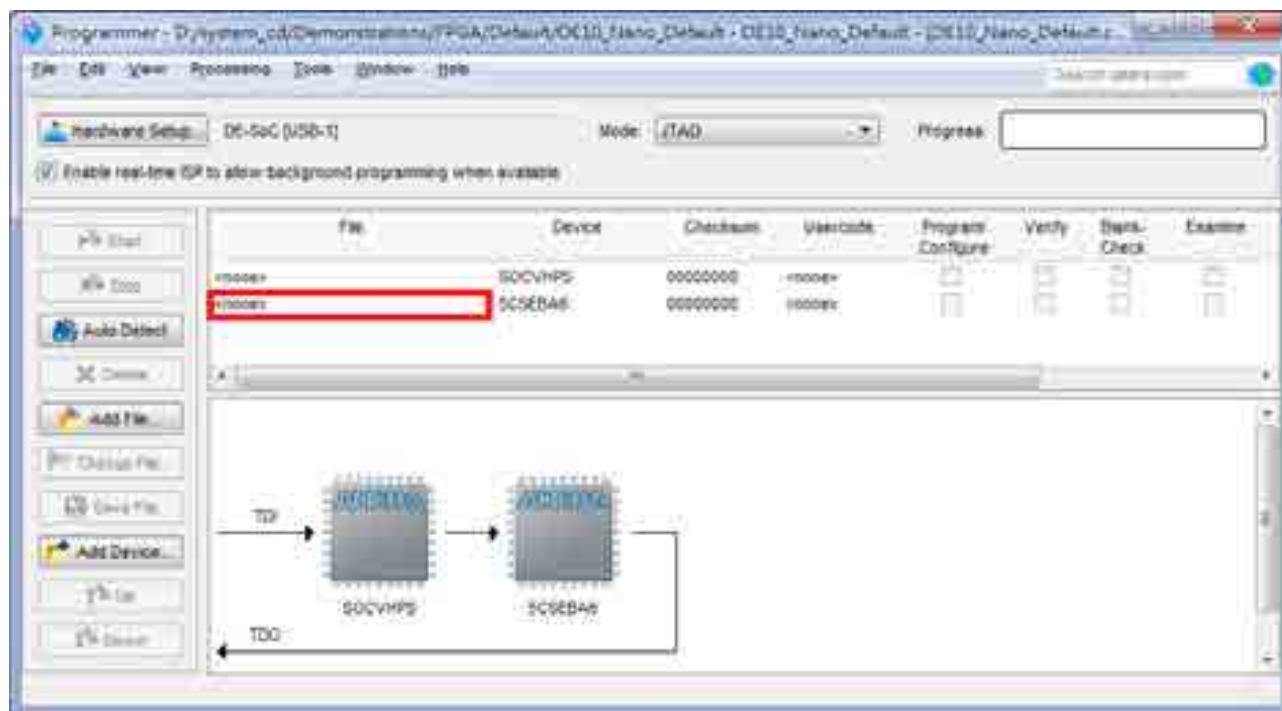

Figure 8-7 Two devices are detected in the Quartus II Programmer
3. Click **Auto Detect** and then select the correct device (5CSEBA6). Both FPGA device and HPS should be detected, as shown in **Figure 8-7**.
4. Double click the red rectangle region shown in **Figure 8-7** and the **Select New Programming File** page will appear. Select the .jic file to be programmed.
3. Click **Auto Detect**, and then select correct device, both FPGA device and HPS will detected. (See **Figure 8-7**)
4. Double click the red rectangle region shown in **Figure 8-7**, and the **Select New Programming File** page will appear. Select the correct .jic file.